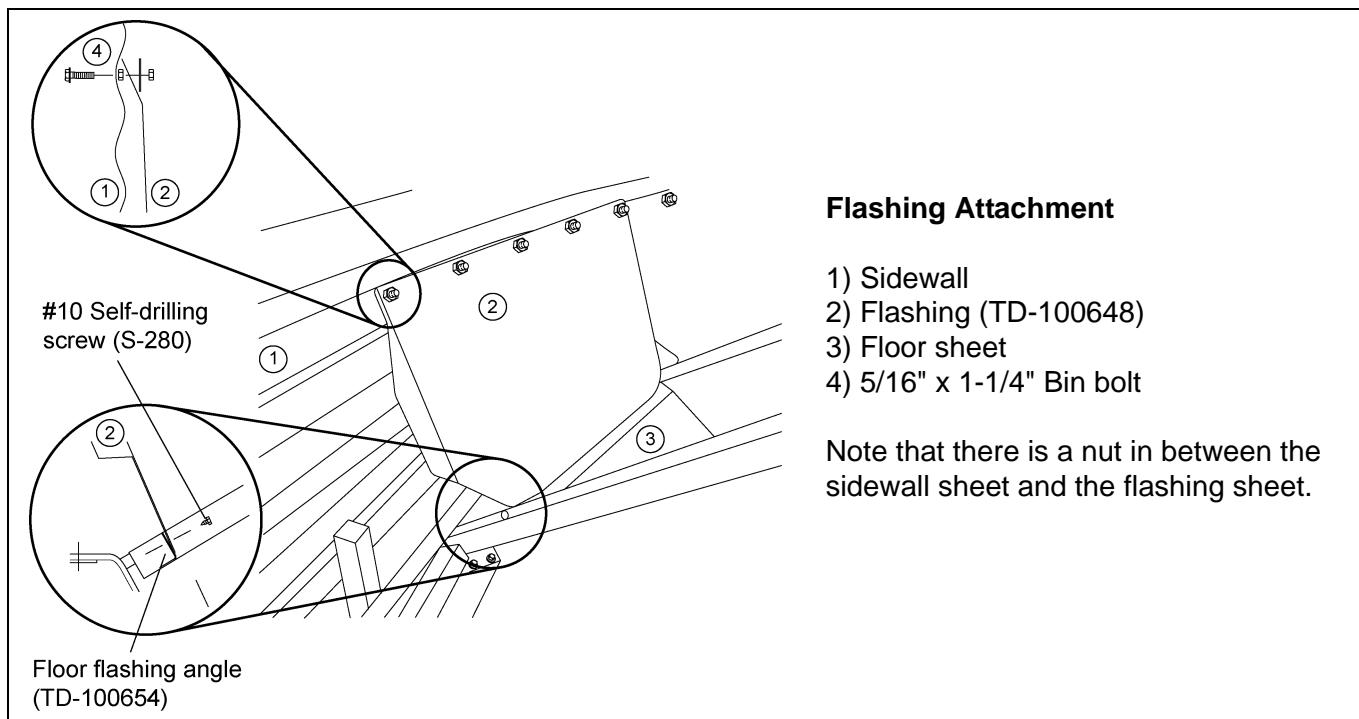
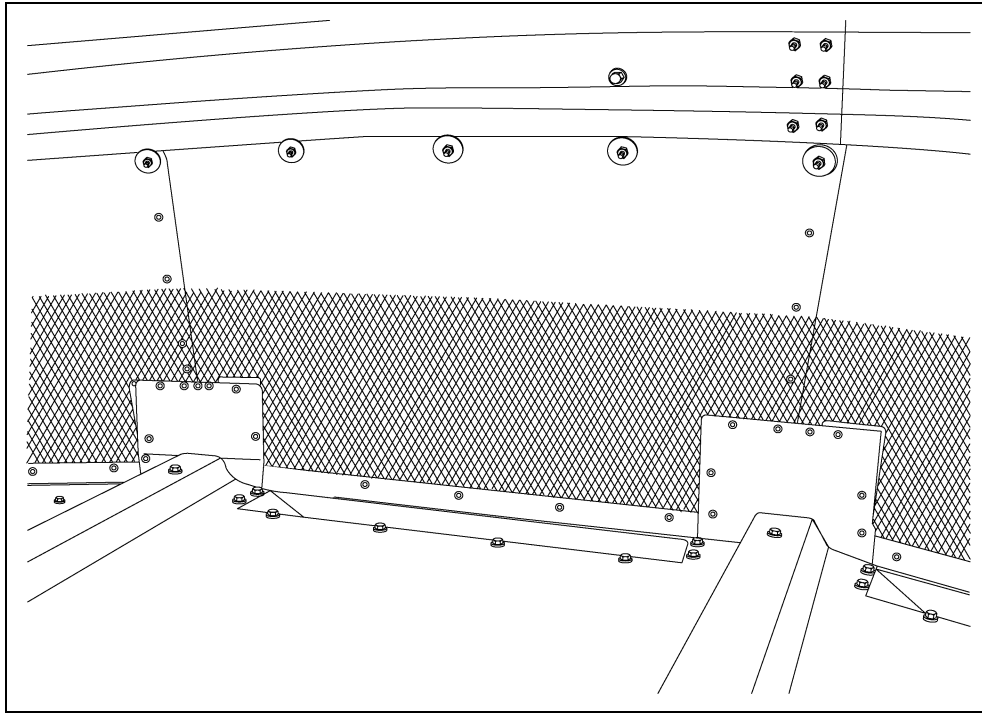

Figure 8I
Figure 8J
Install the eave flashing centered on the floor sheet (1 per) with the bent edge towards the sidewall install a fender washer (S-3671) and nut. Screw the flashing to the flashing angle at the dump hopper opening with five (5) #10 self-drilling screws (S-280) and screw the flashing pieces together where they overlap with three (3) #10 self-drilling screws (S-280). (See Figure 8I below and Figure 8J on Page 42.)